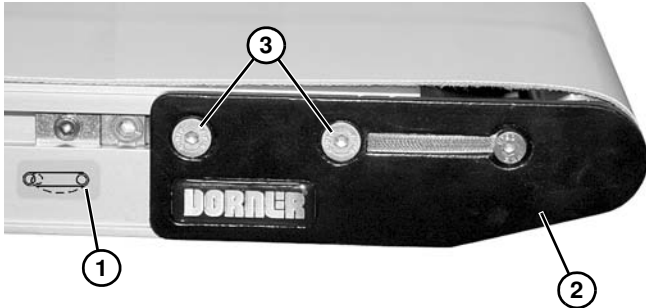

Figure 43
2. On tension end of the conveyor, identified with a  label (**Figure 43, item 1**), push in head plate assembly (**Figure 43, item 2**): On both sides of conveyor, loosen fastening screws (**Figure 43, item 3**) and push head plate assembly inward.